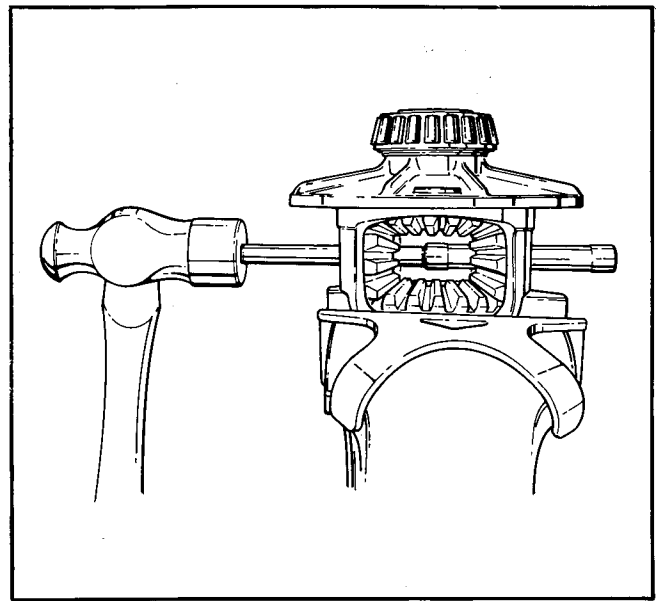

Figure 27 – Remove Pinion Mate Shaft
- n. Drive pinion mate shaft (14) from case with long brass drift, Figure 27.
- o. Remove pinion mate gears (15) and thrust washers (16) (one on back of each gear) by rotating both gears 90° to opening in differential case.
- p. Remove differential side gears (17) and thrust washers (18) (one on back of each gear) through opening in differential case.